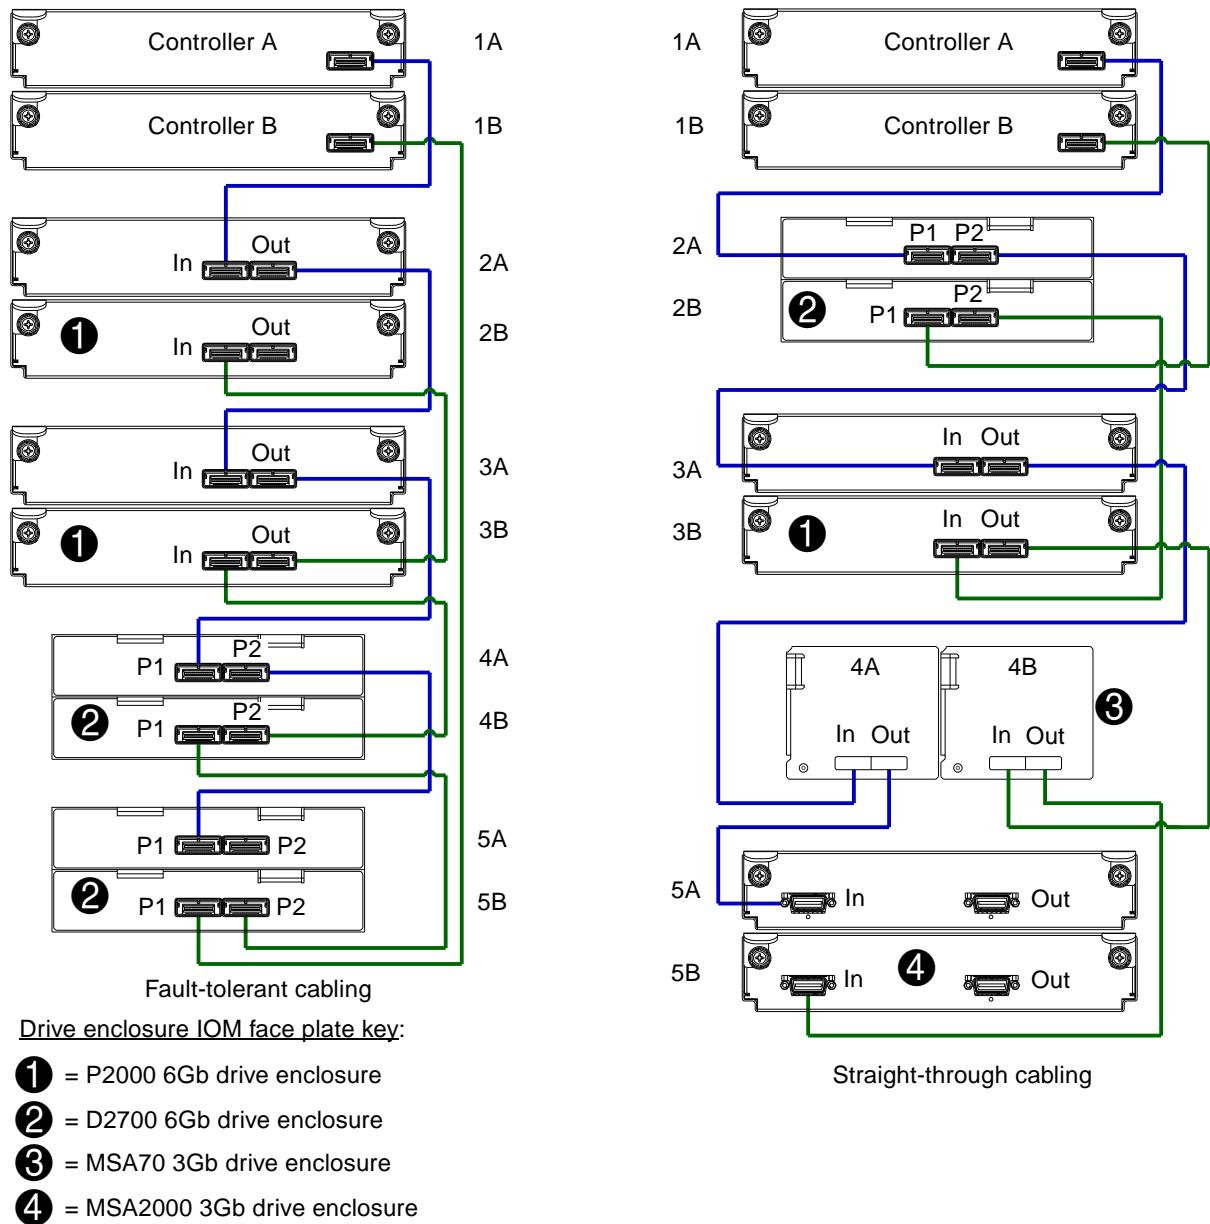

Figure 10 Cabling connections between dual controllers and drive enclosures of mixed type
P2000 G3 MSA System controller modules support cabling of 3Gb and 6Gb SAS link-rate LFF and SFF expansion modules — in mixed fashion — as shown in Figure 10 on page 32, and as further described in Additional cabling considerations (below); the *HP P2000 G3 MSA System Cable Configuration Guide*; and HP white papers (listed on the following page).
- To avoid performance limitations in a mixed-type drive enclosure environment, cable 3Gb drive enclosures after 6Gb drive enclosures as shown in Figure 10 on page 32. Do not mix 6Gb and 3Gb disk drives in the same enclosure.